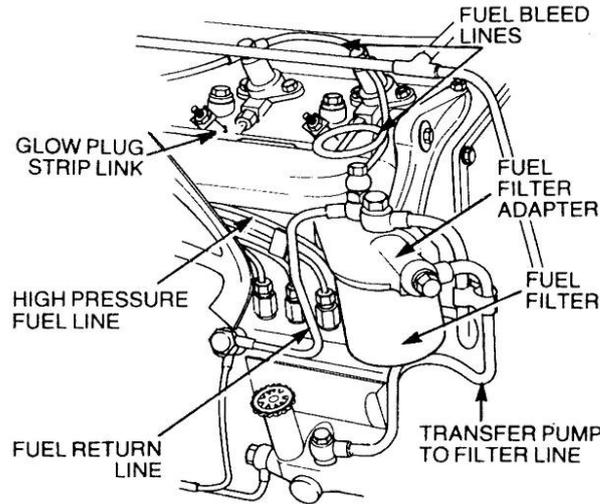

Figure 19 Removal of the Fuel Lines
- r.** Remove the electrical strip link from the top of the glow plugs (Figure 19) and remove the electrical feed wire from number four cylinder glow plug. Remove the glow plugs.
- s. Place a suitable container beneath the engine to catch any fuel spillage and drain the fuel from the fuel filter into a suitable receptacle. Remove the fuel injector bleed lines (Figure 19) and plug all apertures with suitable plastic plugs.
- t. Disconnect and remove the remaining fuel lines from the fuel filter adaptor (Figure 19) and plug all apertures with suitable plastic plugs.
- v. Crack loose the fuel line connections at the fuel injectors (Figure 19) and allow any residual fuel that may be under pressure to drain off. Disconnect the fuel lines and plug all apertures with suitable plastic plugs. Remove the clamps securing the fuel lines and remove the fuel lines at the injection pump. Plug all apertures with suitable plastic plugs.